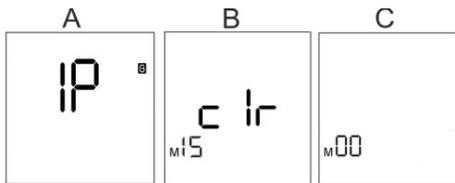

Fig. 11: Delete measurements
- 2) Wait until [c Ir] flashes on the display (Fig. 11 C).
⇒ The acoustic signal sounds 3 times and the display shows *[MOO]* (see Fig. 11/C).